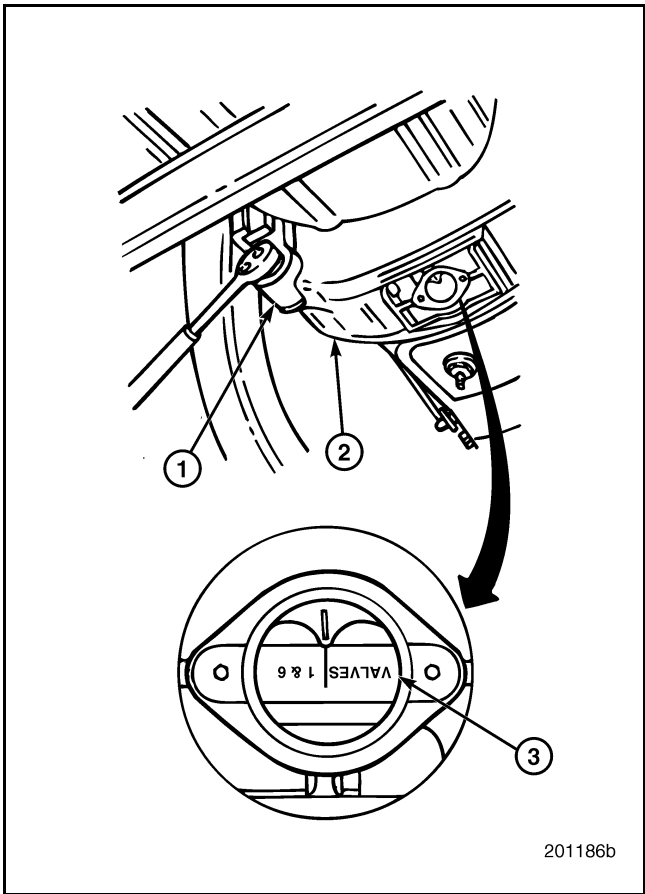

Figure 560 — Valve Adjustment Markings on Flywheel
1. Using a barring socket, manually rotate the engine crankshaft (Figure 560) in normal rotation direction 120 degrees until the center of the timing pointer hole in the flywheel housing aligns with the "2 and 5" mark on the flywheel and the No. 5 piston is on the compression stroke.